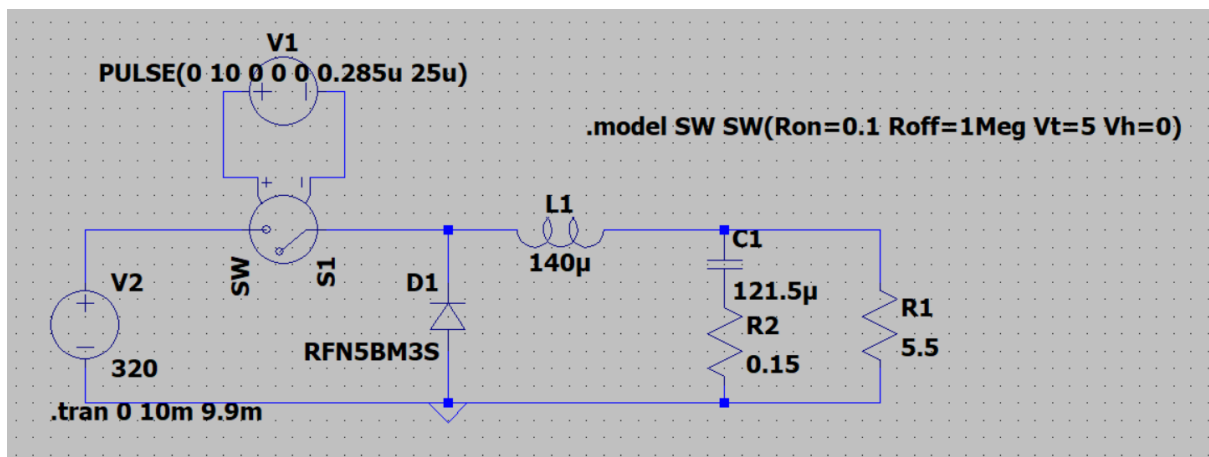

Figure 5: LTSpice Implementation of Buck Converter Circuit
- f. To simulate the Buck Converter, the circuit is implemented on LTSPice as shown in figure 5.